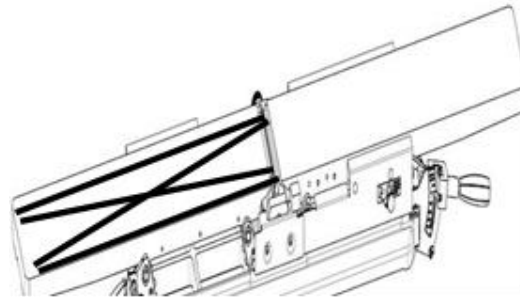

Figure 40: Checking Infeed Table
STEP 5: Place a straight edge in positions shown in FIG. 40 to make sure outfeed table is parallel with the cutterhead.